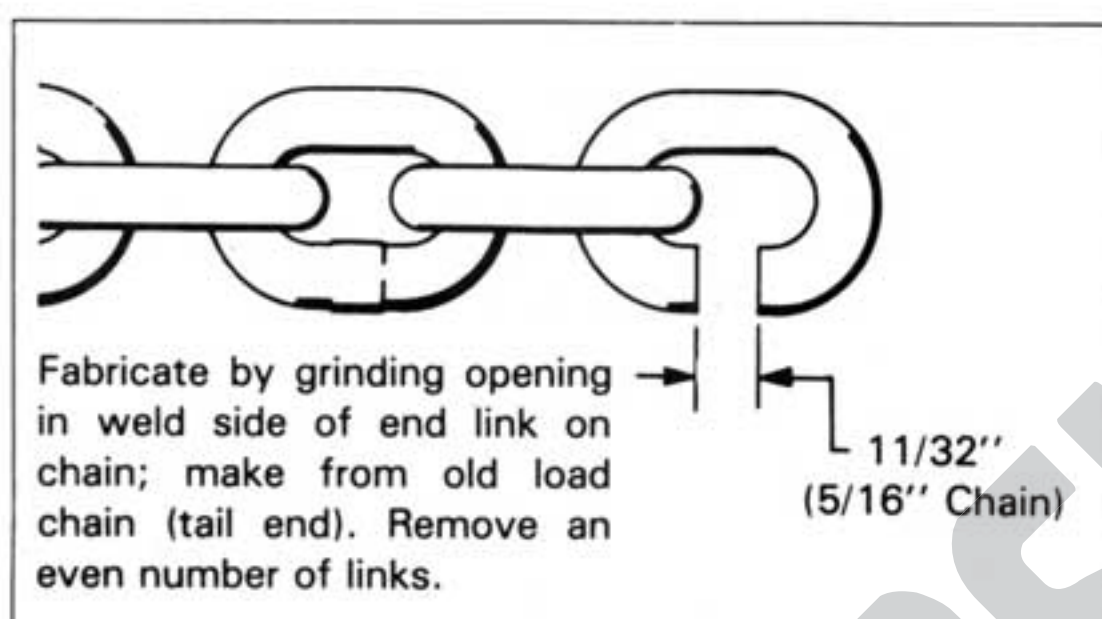

Figure 5-3. Open "C" Link for Removing and Installing Coil Load Chain.
(3) Removing and Replacing Coil Load Chain.
- Replacement coil load chain is installed by attaching it to tail end of old chain, after disconnecting old chain from side of hoist frame and removing limit actuator. New chain is then run into hoist as old chain is run out. Use open "C" links, Figures 5-3 and 5-4, for attaching chains. Links must be identical in size to hoist chain — 5/16" wire size with .858" pitch length for all models. Be certain that all welds on links of replacement chain face away from center of load sprocket.